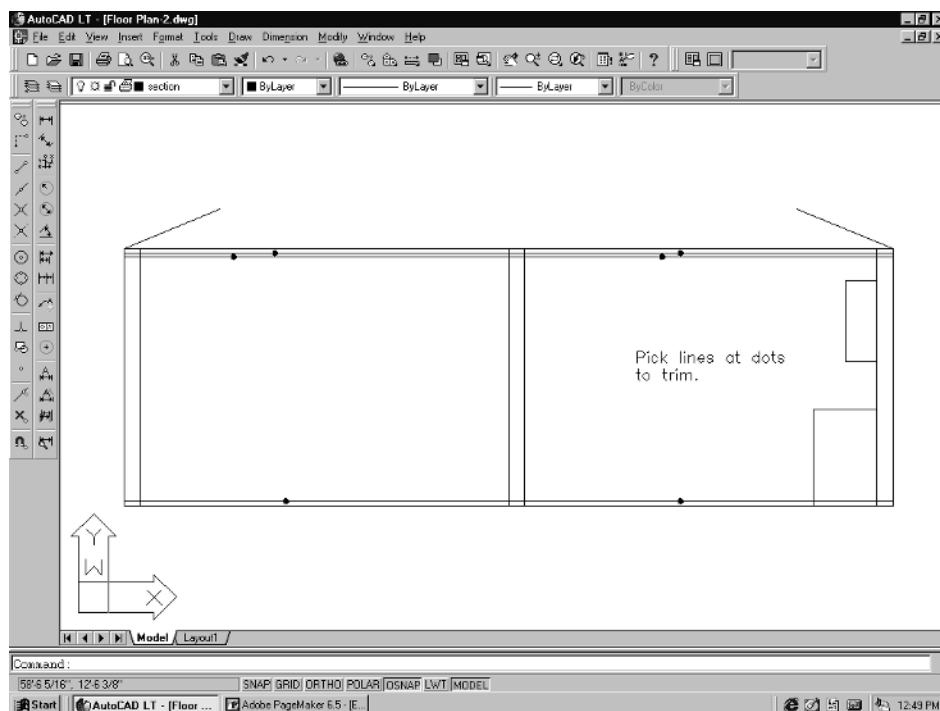

Figure 3-42
- Next, you need to trim out the lines that you just offset. The easiest way is to pick **Trim** from the Modify pull-down menu and hit **Enter** twice at the *Select objects* prompt. This will make all lines cutting edges. Then just start picking the lines to get rid of. Figure 3-42 shows each line that needs to be trimmed.